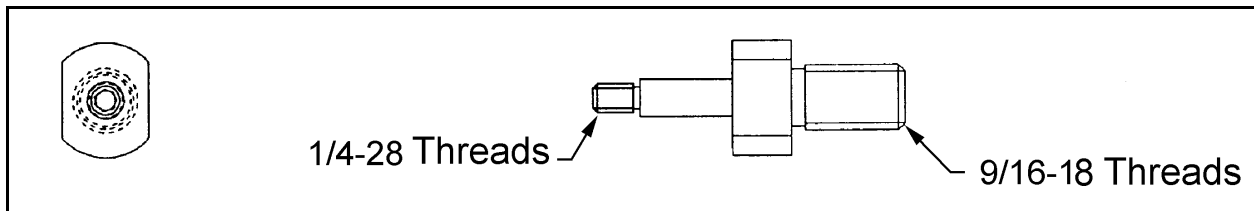

Figure 5: New spindle.
- Install the new spindle (figure 5) into the hole cleared previously. Fasten the wider side using a 9/16 washer and nut;
- Fix the new spindle (figure 5) into the hole cleared previously. Fix the larger diameter's side of the spindle with a 9/16 washer and nut;